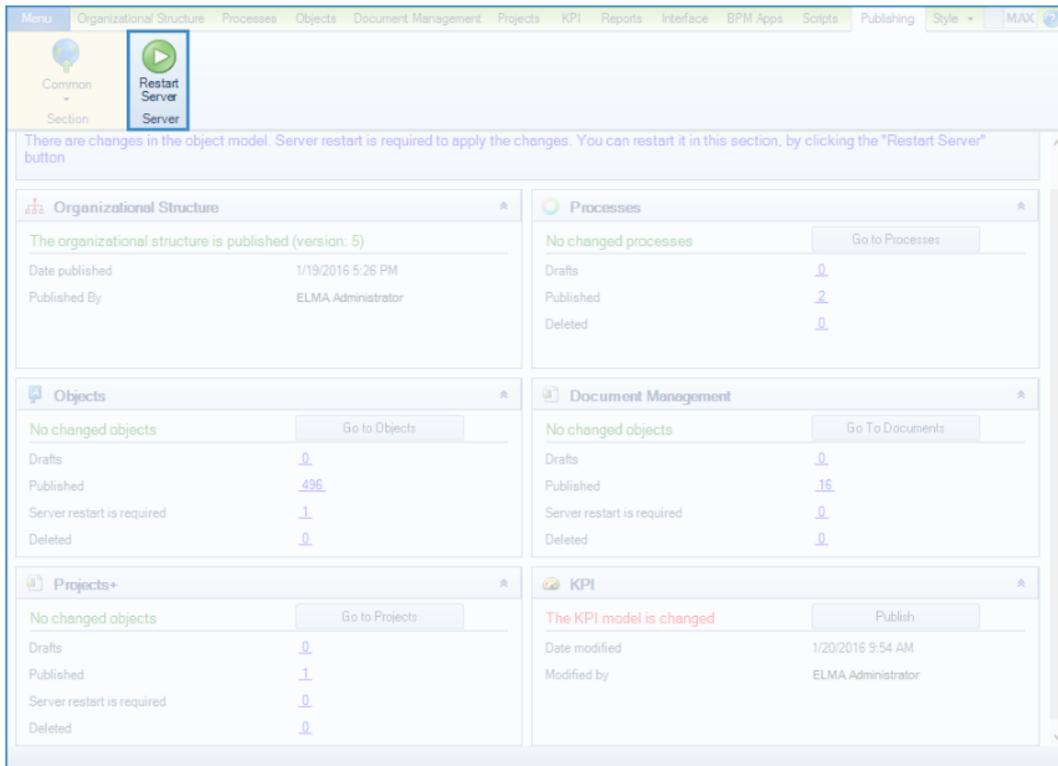

Fig. 14. Restarting the server
- Restart the **ELMA** server, by clicking corresponding button (Fig. 14).